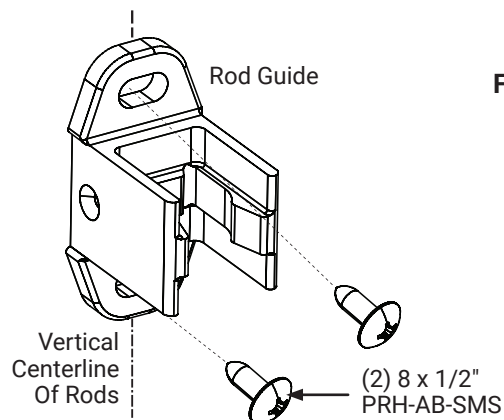

Figure 21
2. Attach top and bottom rod guide brackets onto door with (2) 8 x 1/2" PRH"AB"SMS (see **Figure 21**). If necessary, drill holes, 0.140 (3.50) diameter on inside face of door.